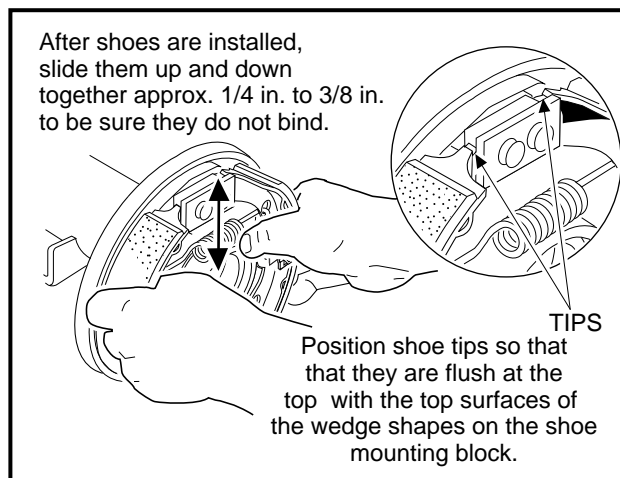

Figure 6-16 Slide Shoes
5. After the shoes are installed, move them together up and down and side to side to make sure that they will easily slide approximately 1/4 to 3/8 inch (6.3 to 9.5 mm) without binding. Make sure the shoes are positioned vertically so that the tips of the shoes are positioned flush at the top with the top surfaces of the wedge shapes on the shoe mounting blocks as shown (**Figure 6-16, Page 6-7**).